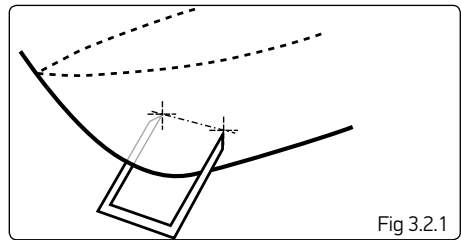

Fig 3.2.1
- ▶ Fig 3.2.1 - Make a jig to precisely align the drill holes either side of the hull.